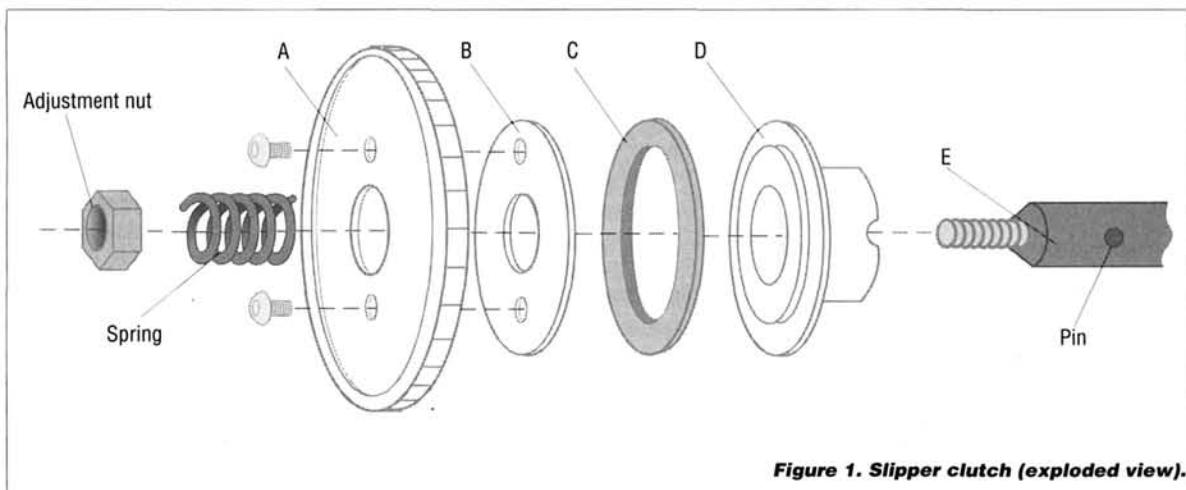

Figure 1. Slipper clutch (exploded view).
The primary function of the slipper is to limit the motor's substantial start-up torque. It does this with friction. To get an idea of how a slipper works, study the diagram that shows the basic parts of a slipper clutch (Figure 1). Note that the spur gear (A) is directly attached to the outer slipper plate (B). The inner slipper plate (D) is direct-